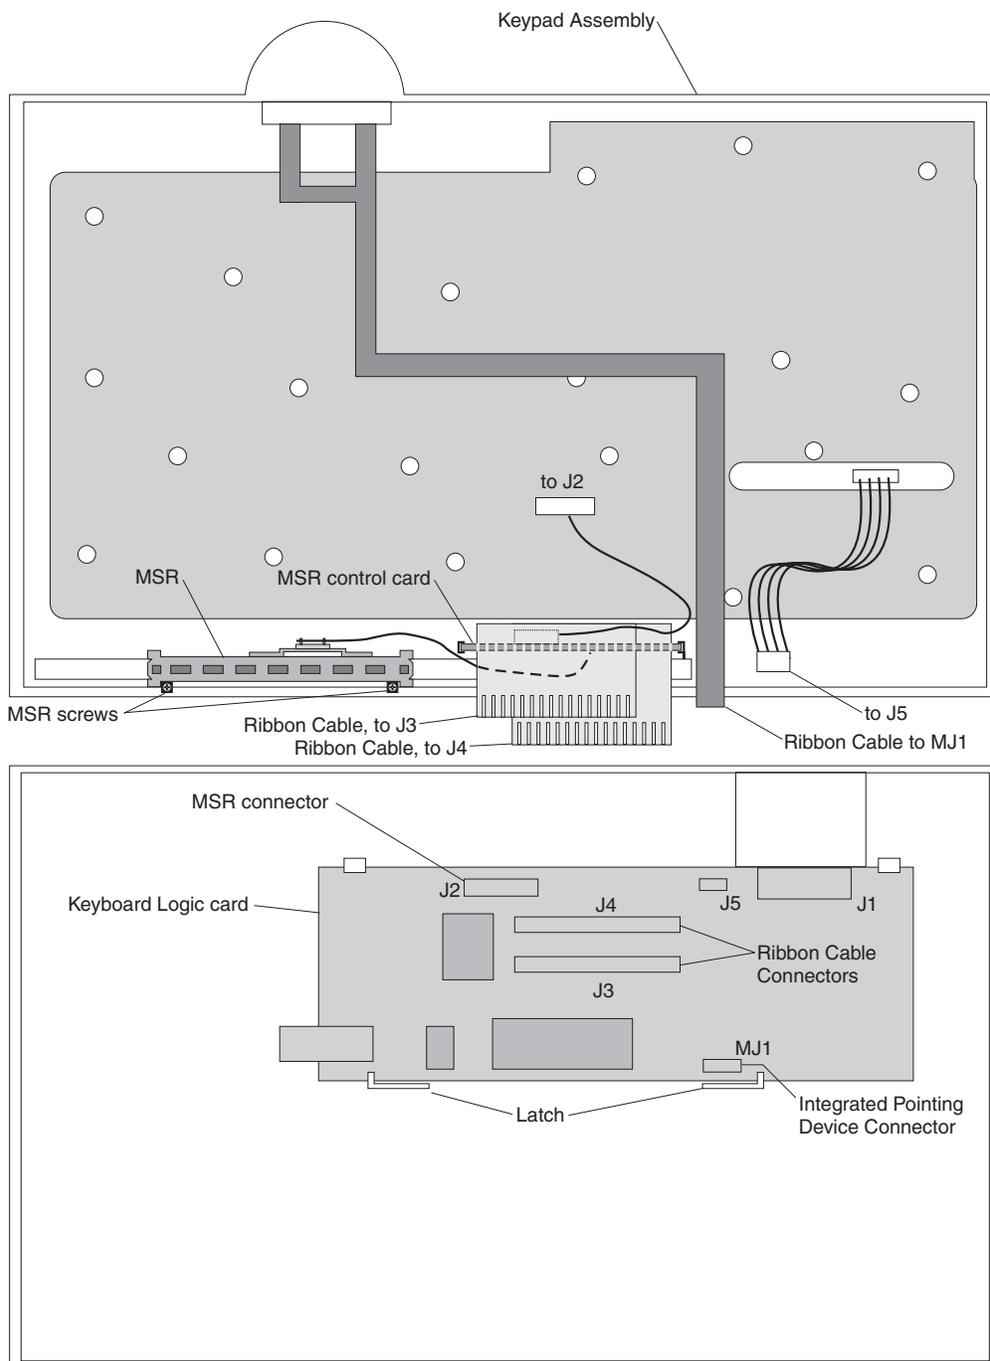

Figure 47. CANPOS keypad assembly with MSR
2. Remove the two screws holding the MSR to the keypad assembly as shown in Figure 47 on page 50. Lift the MSR up and off of the two plastic guides on the keypad assembly.
3. Align the MSR's two screw-holes tabs with the screw holes on the keypad assembly, and slide the MSR into the two plastic guides. Install and tighten the two screws, as shown in Figure 47 on page 50.